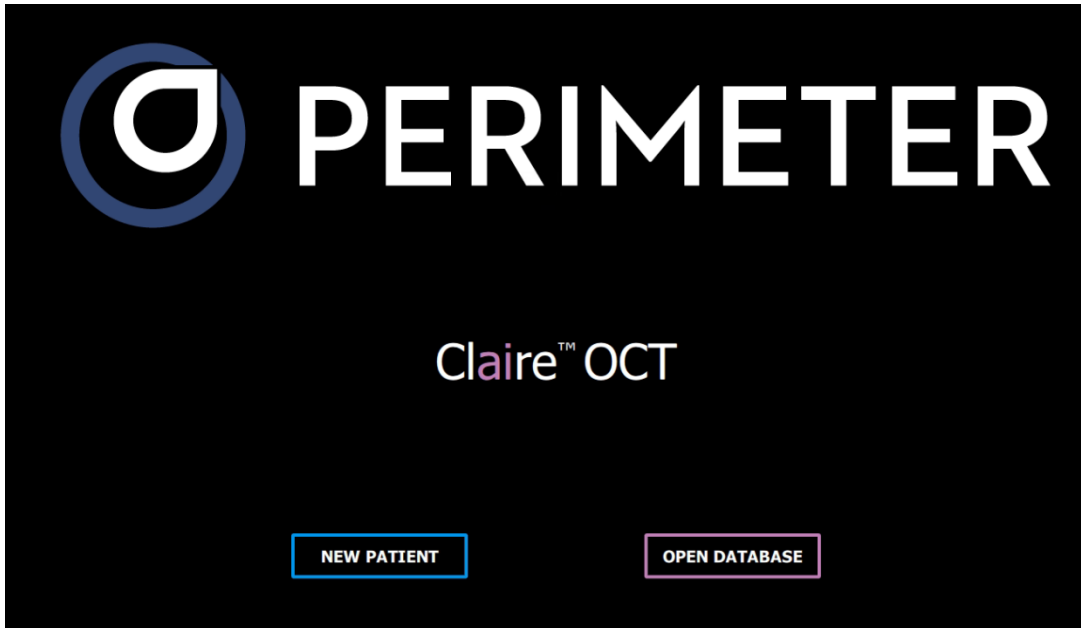

Figure 4: Home Screen
1. Home Screen (see Figure 4)
The Home Screen will appear after logging in. From the Home Screen, start a **New** case, or **Open** a previously acquired case (Figure 4).
From the Review Screen, the user can tap the menu button in the bottom right corner of the screen and then tap on **Case List** (see Figure 9), to access the Case List Screen (see Figure 10). The user can also access the Case List Screen from the Home Screen (see Figure 4).
The Claire OCT System Home Screen will automatically launch after successful login. The Home Screen will appear as shown in Figure 4.
Select a **New** case from the Home Screen (see Figure 4).